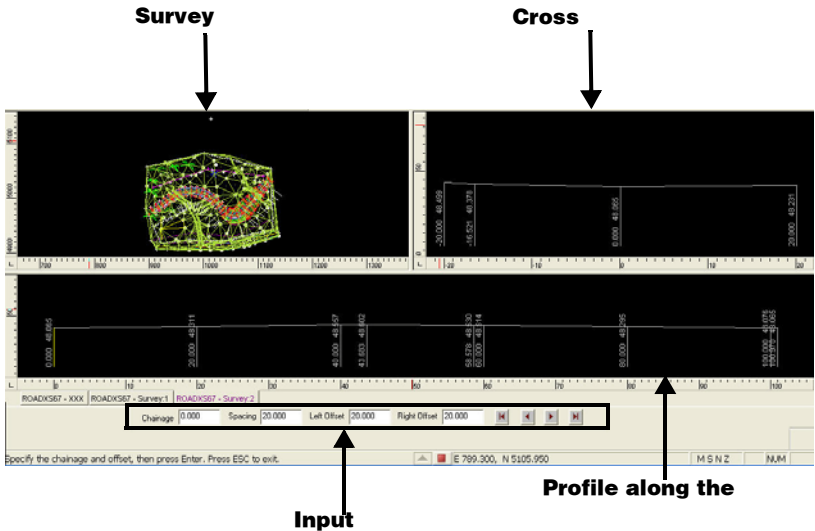

Figure 13-81. Cross Section View Display Panes
OK	Press to create the cross section view. The Cross Section View pane appears (Figure 13-81 on page 13-73).
The Cross Section View pane (Figure 13-81 on page 13-73) consists of three panes of data:
The prompt line, “*Specify the chainage and offset, then press Enter. Press ESC to exit*”, appears at the bottom of the screen (Figure 13-81).
The input bar (Figure 13-81) displays the current station position and the spacing and offset previously entered, together with arrow buttons to move through the sections.
- Alternatively, click on a leader line in the Profile pane (bottom) (Figure 13-81 on page 13-73) to view a particular section.